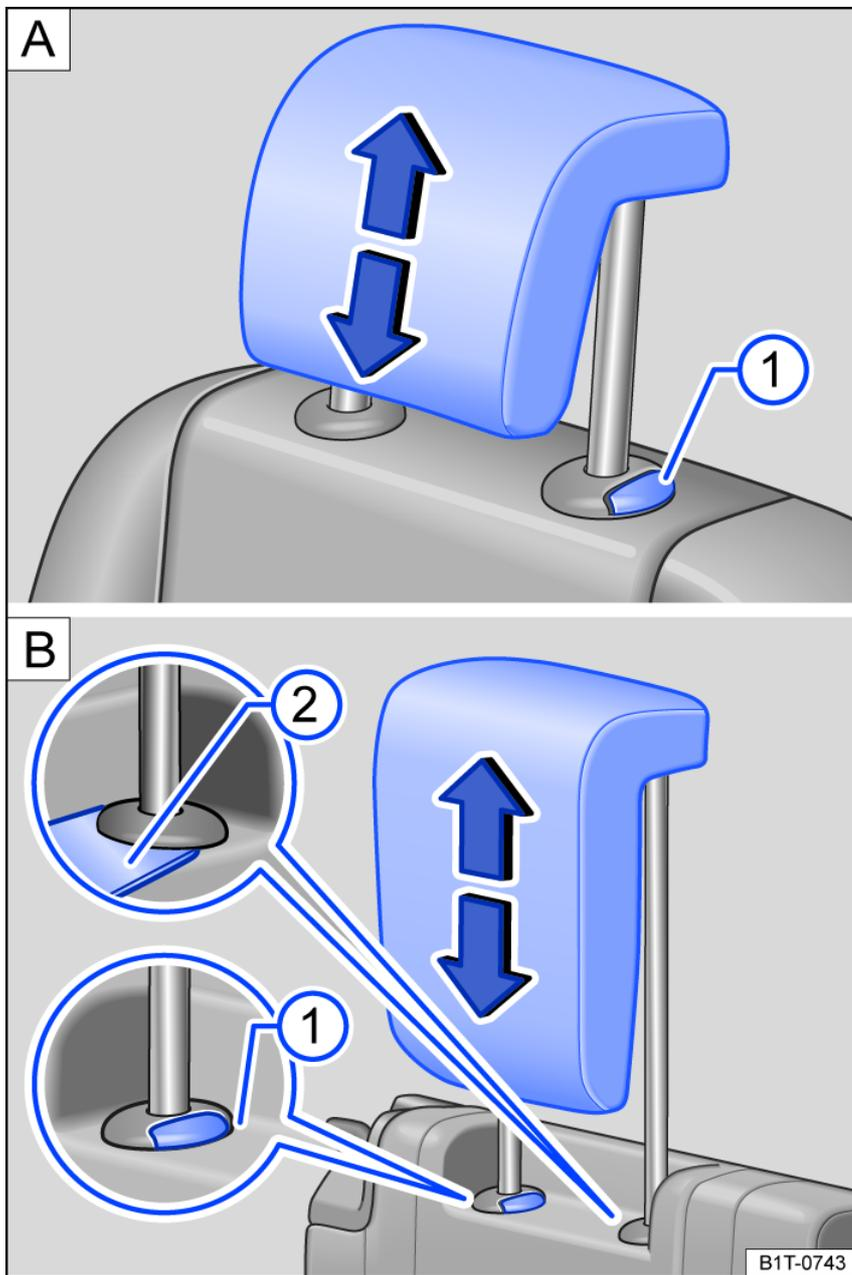

Fig. 89 Rear head restraint: Removing.
- Pull the head restraint all the way out while pressing the [A] fig. 89 button.
- To assist release where necessary, insert a flat object, e.g. a plastic card [B] fig. 89 between the backrest cover and the cap of the head restraint guide pin.
- Pull the head restraint all the way out while pressing the **B** *fig. 89* button.
- Push the head restraint downward while pressing the *fig. 89* button.